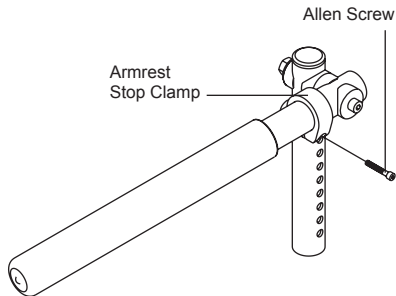

Figure 48
1. To adjust the angle at which the armrest sits when in the down position, loosen, but do not remove, the Allen Screw that secures the armrest stop clamp. See Figure 48.